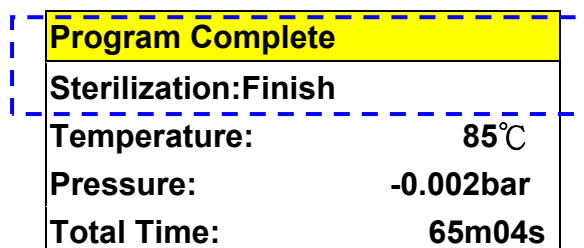

Figure 112- Program Complete
- G. On completion, the buzzer will sound and the Program Complete message is displayed as shown in Figure 112- Program Complete.